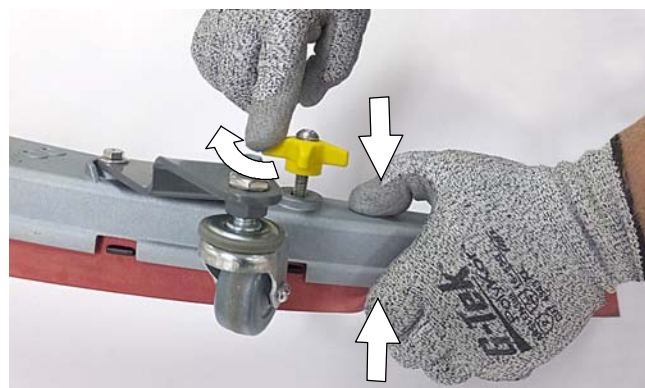

FIG. 92
5. Squeeze the squeegee frame and blade retainer together and re-tighten the two outside knobs (Figure 92).